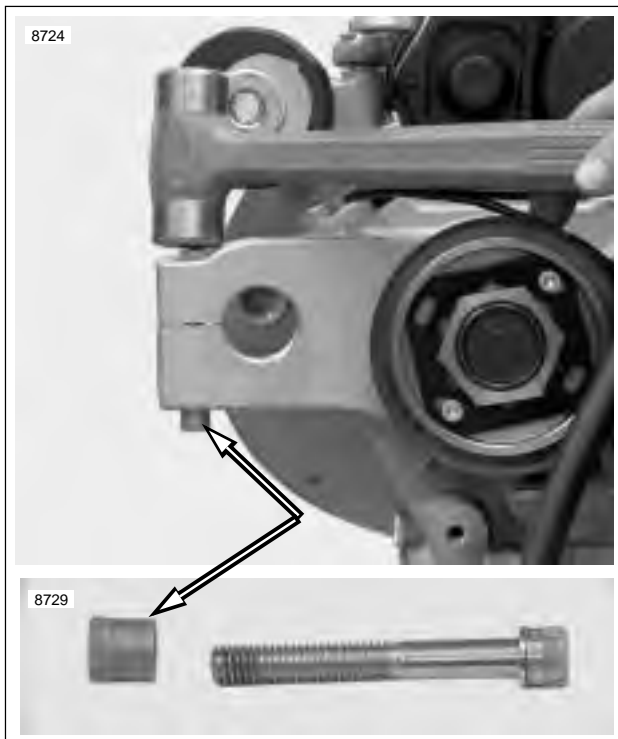

Figure 3-29. Removing Threaded Insert
- c. See Figure 3-29. Swingarm pivot shaft pinch bolt threaded insert.